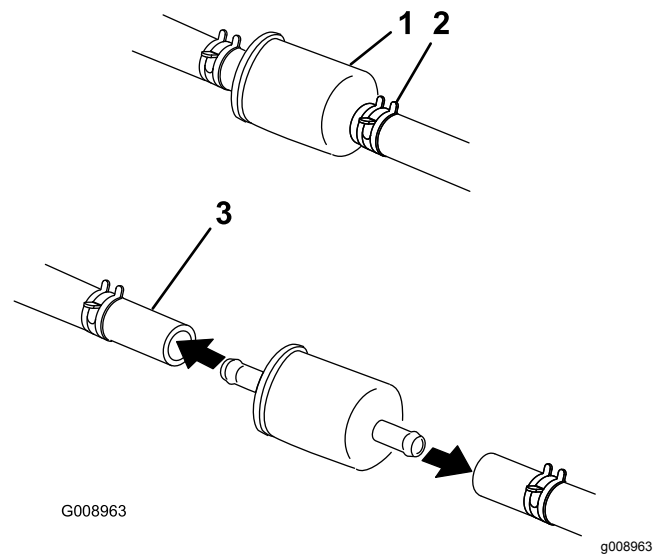

Figure 55
4. Close the fuel-shutoff valve under the seat (Figure 55).
5. Squeeze the ends of the hose clamps together and slide them away from the filter (Figure 55).
7. Install a new filter and move the hose clamps close to the filter (Figure 55).